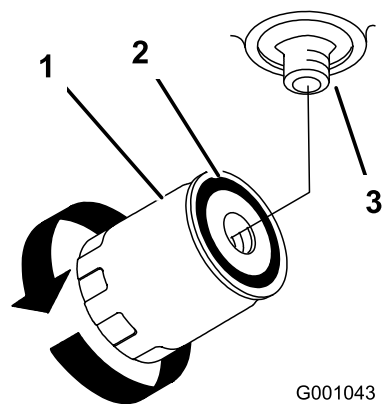

Figure 94
7. Apply a thin coat to the rubber gasket on the replacement filter (Figure 94).
9. Fill the hydraulic tank with hydraulic fluid until the fluid overflows the filter and then turn the fluid filter clockwise until the rubber gasket contacts the filter adapter, then tighten the filter an additional 1/2 turn (Figure 94).